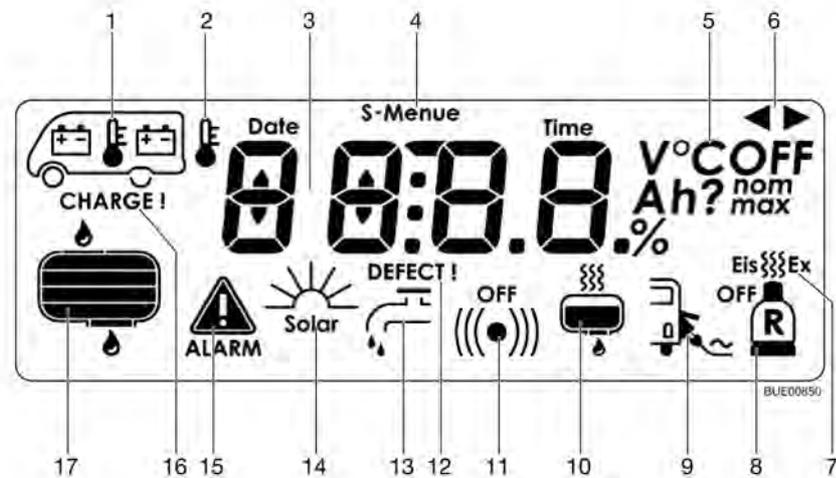

Fig. 106 Symbol representation in the LCD display
- Defroster (Fig. 106,7) switched on or off (optional).
- Switching facility for two gas bottles (Fig. 106,8) (optional): The gas bottle symbol appears when one of the two gas bottles is empty. If the second bottle is also empty, the symbol flashes and ("ALARM") (Fig. 106,15) appears in the basic menu.
- Mains check (Fig. 106,9): The symbol appears if the vehicle is connected to the 230 V power supply.
- Heater for waste water tank (Fig. 106,10) (optional): The symbol appears if the heater for the waste water tank is switched on.
- Water pump (Fig. 106,13): The symbol appears if the water pump is switched on.
The basic menu appears and the symbols (Fig. 106,1, 15 and 16) flash as soon as the voltage of the living area battery falls below 12 V (measured under operation) and there is the threat of a total discharge. Additionally, the voltage indicator flashes in the battery menu.
The basic menu appears and the symbol (Fig. 106,1) flashes. The Ah-data and the "CHARGE!" command are also displayed in the battery menu.
The basic menu appears and the symbol (Fig. 106,1) flashes. The "DEFECT!" display is also displayed in the battery menu.